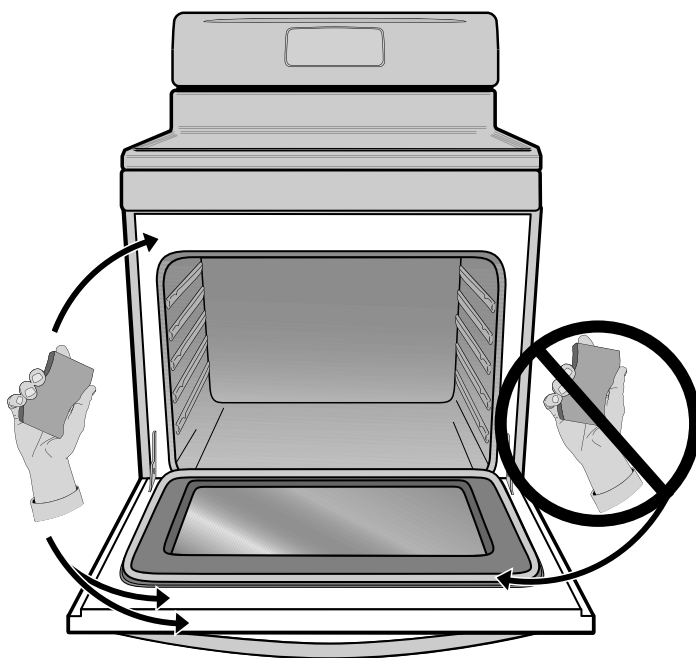

Fig. 1
- Clean any soil from the outer oven frame, the door liner outside the oven door gasket and the small area at the front center of the oven bottom. These areas (See Fig. 1) heat sufficiently to burn soil on. Clean using soap and water before starting self-clean.
- **DO NOT clean the oven door gasket** (See Fig. 1). The woven material of the oven door gasket is essential for a good seal. Care should be taken not to rub, damage or remove the gasket. **DO NOT** use any cleaning materials on the oven door gasket. Doing so could cause damage to the door gasket.